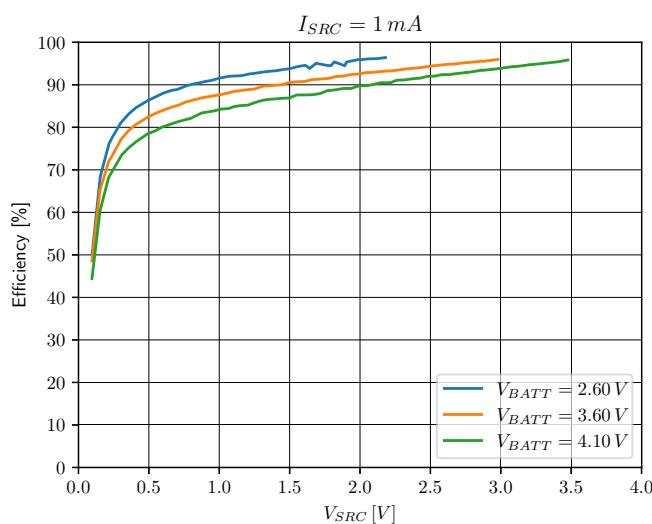

Figure 14: Boost efficiency for $I_{SRC} = 1 \text{ mA}$, $L_{BOOST} = 10 \mu\text{H}$ (Coilcraft LPS4018-103)
- The measurement must last long enough for the average values read on both SMUs to be stable. Figure 14 has been obtained by averaging over 100 measurements configured with a 200 ms integration time.